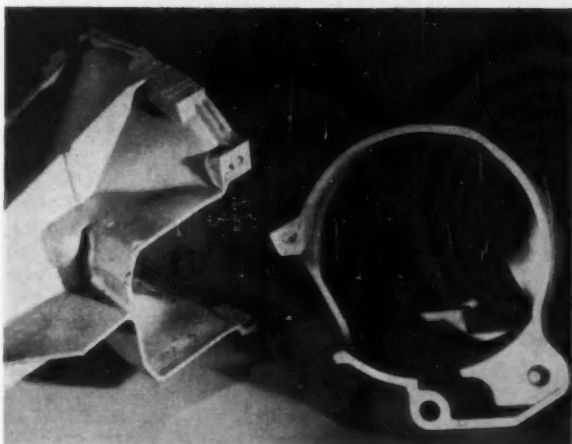

Fig. 2—Typical heavy sections where shrink holes appear.
2. *Avoid heavy sections and walls:* Heavy sections do not solidify as fast as thin sections. When metal shrinks while it solidifies, the thin sections draw metal from the heavier sections which are still molten. Since risers cannot be applied on die castings, shrinkage appears in heavy sections as shown in Fig. 2.